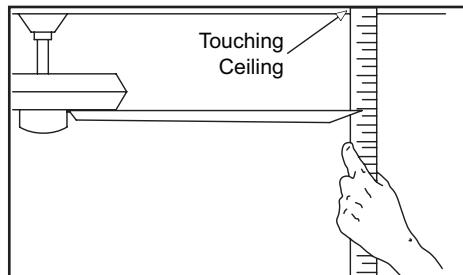

Figure 13
2. Most fan wobble problems are caused when blade levels are unequal. Check this level by selecting a point on the ceiling above the tip of one of the blades. Measure from a point on the center of each blade to the point on the ceiling. Measure this distance as shown in Figure 13. Rotate the fan until the next blade is positioned for measurement. Repeat for each blade. Measurements deviation should be within  $1/8"$ . Run the fan for 10 minutes.